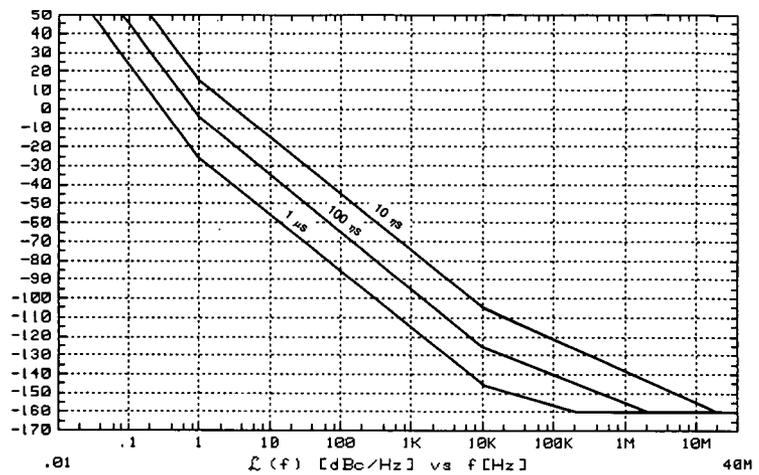

Figure 3-26. Discriminator Noise Floor as a Function of Delay Time.
1. **Determine the delay necessary to provide a discriminator noise floor that is below the expected noise level of the DUT.** Figure 3-26 shows the noise floor of the Discriminator for given delay times (τ). (The noise floor provided by 10 ns of delay is adequate for measuring the internal 350–500 MHz oscillator.)